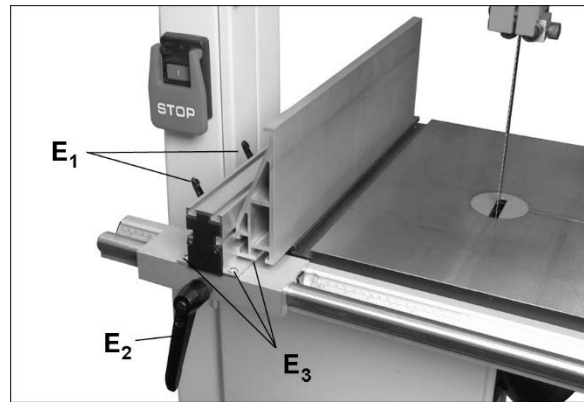

Figure 5-9
3. Loosen handles (E1, Figure 5-9) and install fence onto bar. Tighten handles (E1).
4. Slide fence against edge of miter slot (Figure 5-9) and tighten handle (E2) to lock position. The fence should align parallel to miter slot along entire length of fence.
5. If adjustment is needed, loosen four screws (E3, Figure 5-9) and shift fence body as needed to align fence with miter slot.